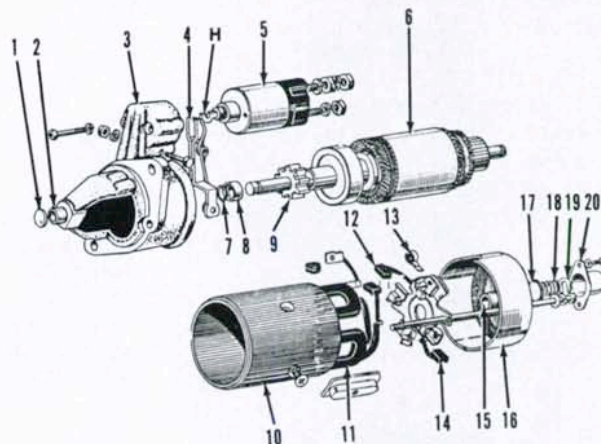

Fig. 84—Exploded view of starter motor used on Model L185.
Refer to Fig. 84, 85 and 86 for exploded view of starter motors. When servicing starter motor, check armature and field coils for shorted or open circuits and renew as needed. Check armature bushings and bearings for excessive wear and renew as necessary. Minimum allowable brush length before renewal is
10.5 mm (0.4 inch) on Model L185 and 12.7 mm (0.5 inch) on all other models. Pinion engagement depth is set by adjusting magnetic switch hook (H—Fig. 84 or 85). With starter pinion in engaged position, distance between stop collar (8) and pinion should be 0.1-0.4 mm (0.004-0.016 inch) on Model L185 and 0.1-0.5 mm (0.004-0.020 inch) on Models L235, L245 and L275.